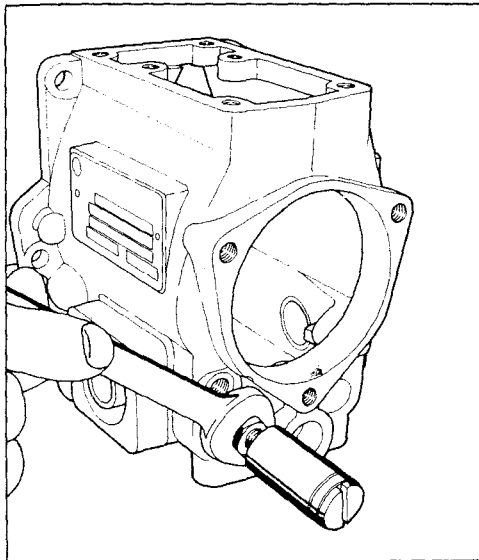

FIGURE 2-27
- (14) When pump is equipped with low idle screw capsule assembly, remove retaining ring inside governor housing.
- (15) Next, remove low idle screw capsule assembly from governor housing. (See figure 2-27). For servicing of the capsule, refer to Section V, shut-off devices.